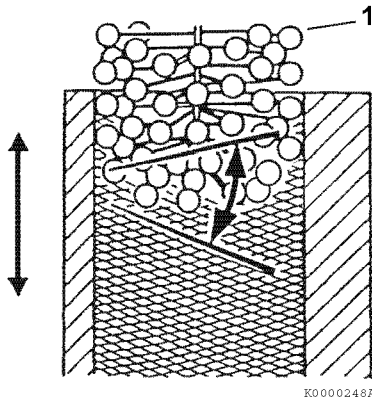

Figure 6-128
*Note: When honing a cylinder, with either a ridged hone or a ball hone (**Figure 6-128, (1)**), move the rotating hone up and down in the cylinder bore to accomplish a 30° to 40° crosshatch pattern (**Figure 6-128**). This will provide the ideal surface for the proper seating of new piston rings.*